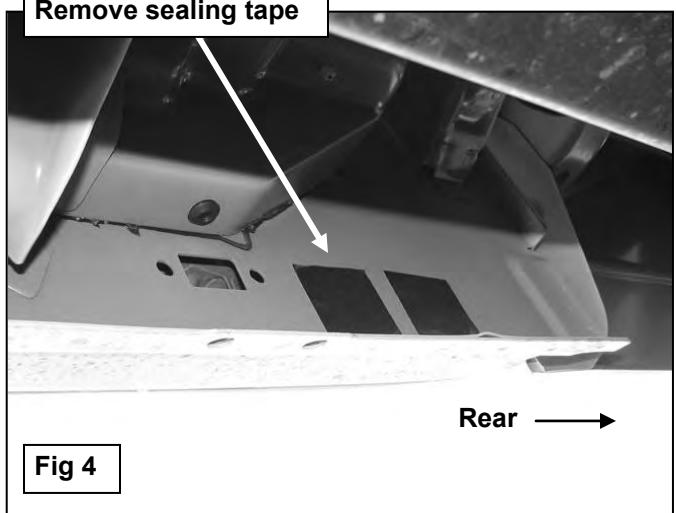

Fig 4
6. Moving to the rear, locate the factory large round hole and smaller oval hole in the inner body panel. **NOTE:** Remove sealing tape or plugs as necessary, (**Figure 4**). Select (1) 12mm Double Bolt Plate.